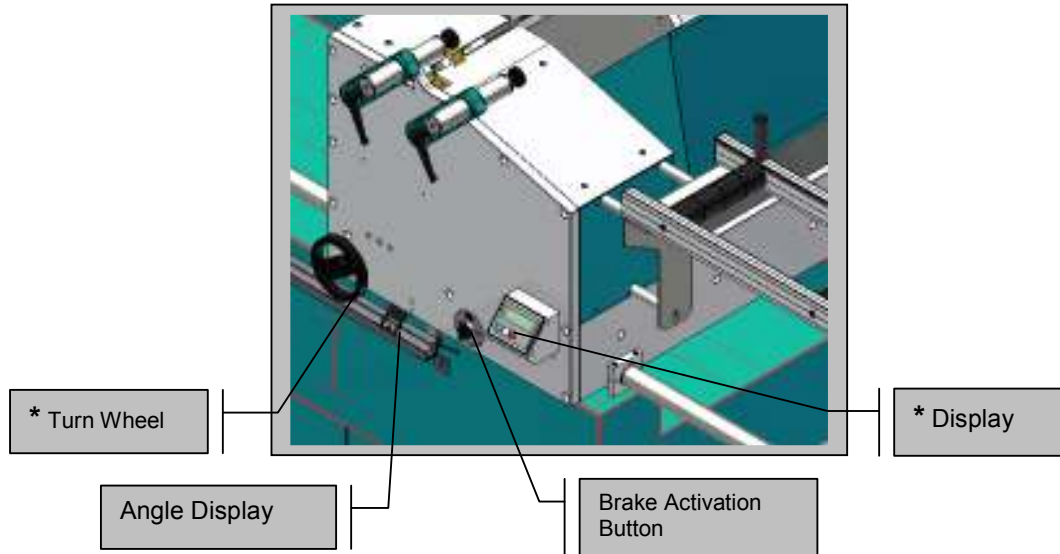

FIGURE 16 DC 550 M
- 5.2.1.1. Deactivate the brake by turning the brake button on the movable cutting head.(see Figure 16 )
- 5.2.1.2. Move the movable cutting head via the hand wheel to the cutting start point using the measuring tape on the machine frame and the magnifier (see Figure 16).